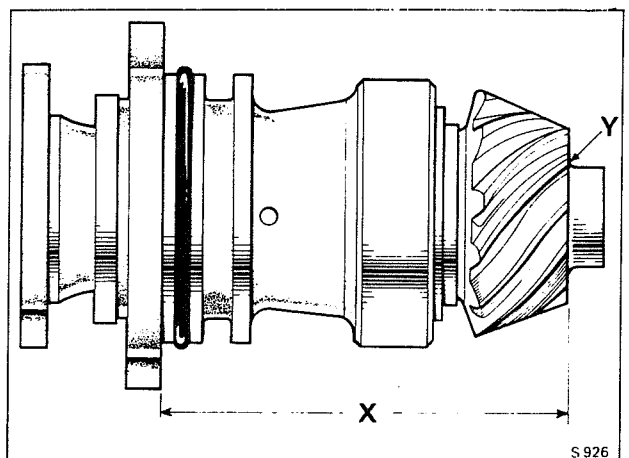

Fig. J9m Pinion Housing measurement
5. Carefully measure from the back face of the pinion housing front flange to the face of the pinion gear, adjacent to the nose bearing diameter (see Fig. J9m dimension X).